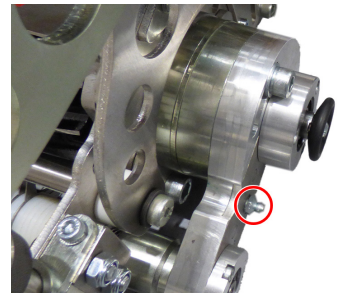

Figure 26
- One grease point is located on the groomer gearbox assembly (if equipped). See Figure 26.